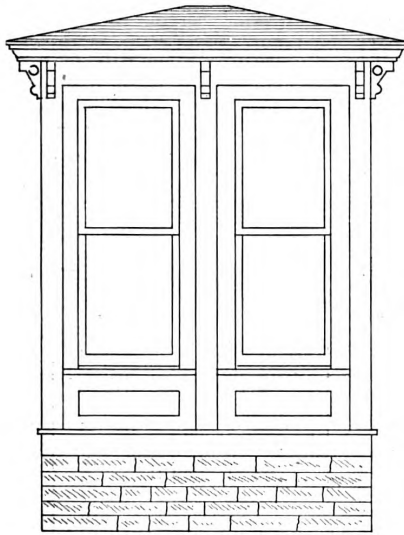
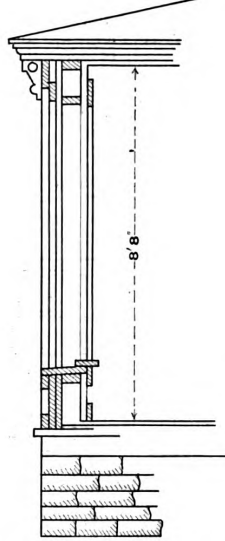

Fig. 20.—Detail of Bay Window.—Scale,  $\frac{1}{4}$  Inch to the Foot.
Fig. 21.—Vertical Section of Bay Window, Showing General Construction.—Scale,  $\frac{1}{4}$  Inch to the Foot.
**A** DETAIL of the bay window drawn to a scale of  $\frac{1}{4}$  inch to the foot is shown in Fig. 20 of the engravings. The description and method of drawing the bay window was so thoroughly explained in con-
nection with the front elevation that by comparing Fig. 20 with Figs. 11 and 12 the draftsman will readily understand the course to be pursued. A vertical sectional view drawn to  $\frac{1}{4}$ -inch scale, which will serve as an example for practice, is shown in Fig. 21.